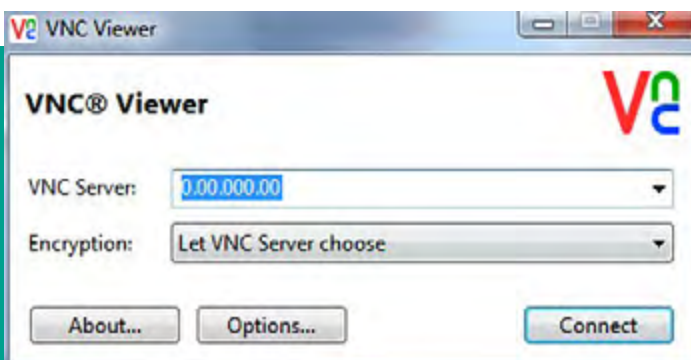

Figure 74: VNC viewer screen
5. From the **PC**, go to the **RealVNC** web site and download the VNC Viewer. Then, launch the VNC Viewer and enter the recorded moisture.IQ *IP address* when prompted (see figure 74 below). Click the **connect** button.